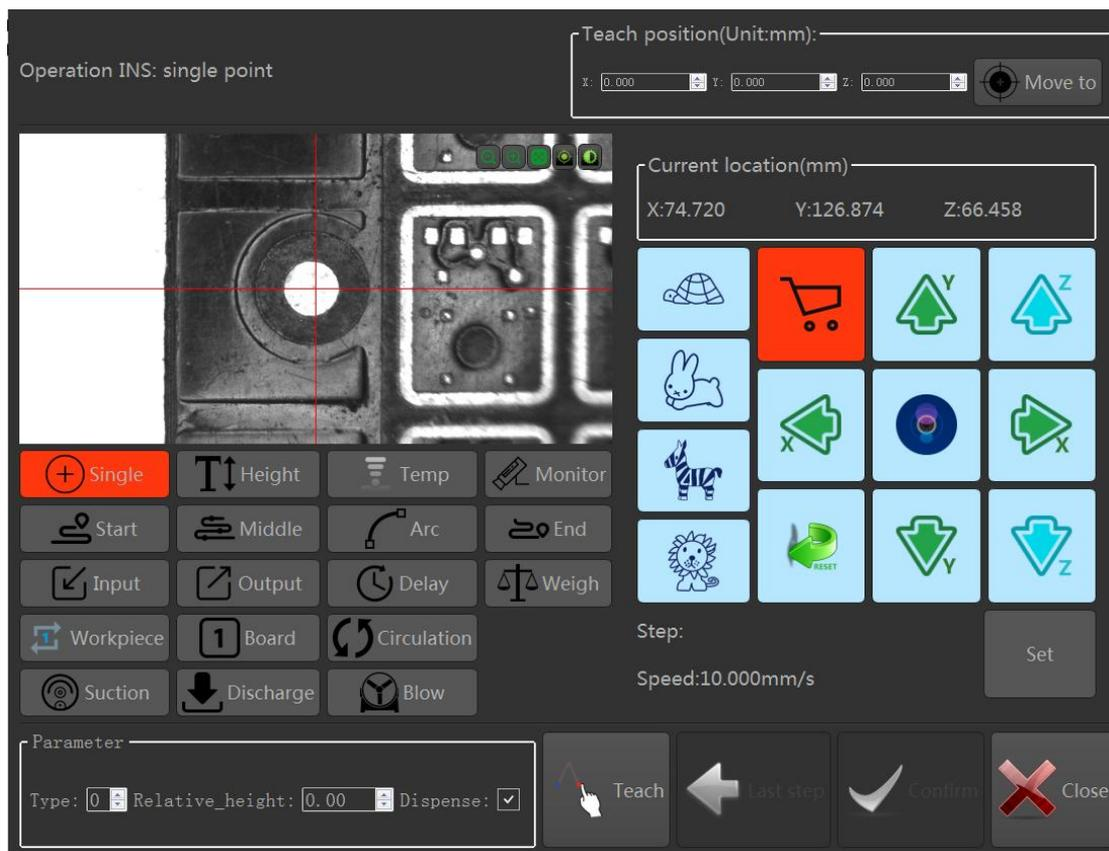

Fig. 5-3-15 Task teaching
(1)Add track point: Click the "Add" button. At this time, the teaching track interface will pop up. You can add track points such as the independent point, height measurement point, workpiece mark, and board mark. You can set the point type, relative height, and glue Wait for information, as shown in Figure 5-3-15.